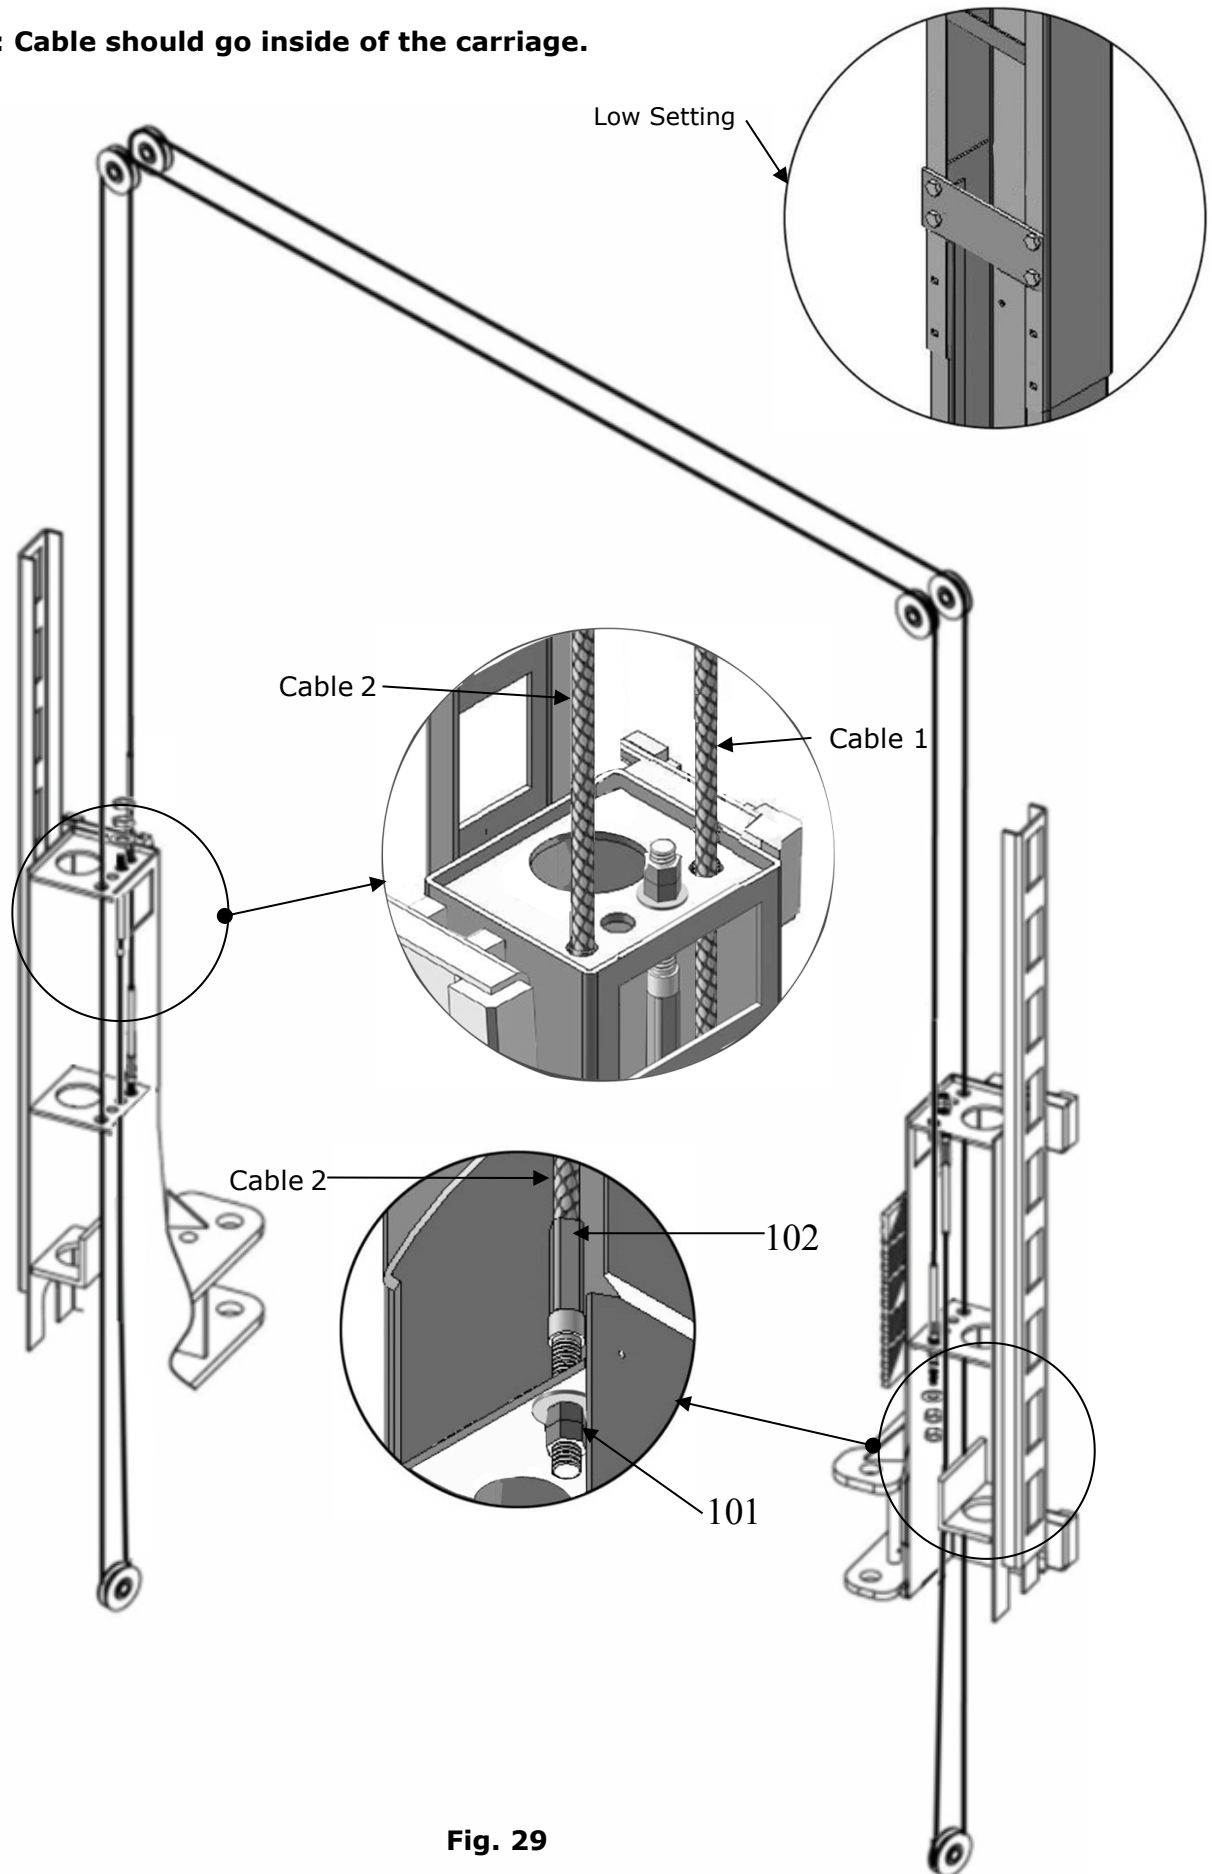

Fig. 29
2. Low setting cable connection (See Fig. 29).